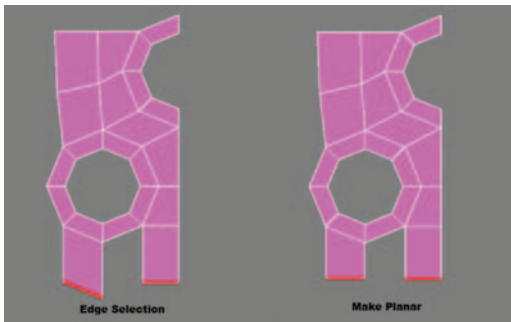

Figure 5.11 Uneven edges selected. Edges straightened using Make Planar “Y”.
12. To straighten the resulting edges on a single horizontal level, go to the Edit Geometry rollout, next to Make Planar, and click Y to average the edges to a straight configuration (Figure 5.11).